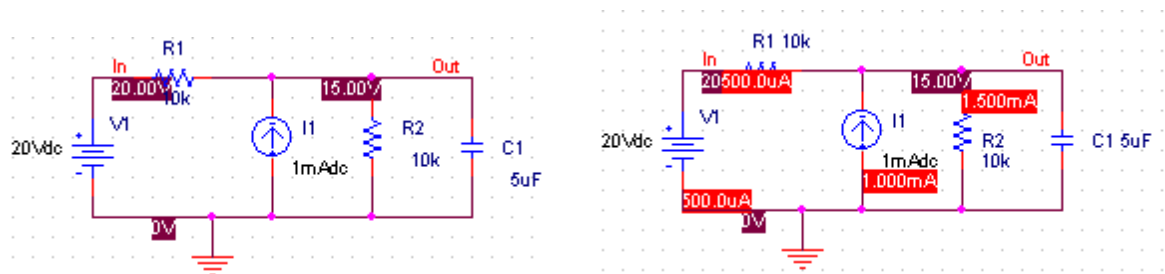

Figure 6: Results of the Bias simulation displayed on the schematic.
- To see the result of the DC bias point simulation, you can open the Simulation Output file or go back to the schematic and click on the V icon (Enable Bias Voltage Display) and I icon (current display) to show the voltage and currents (see Figure 6).